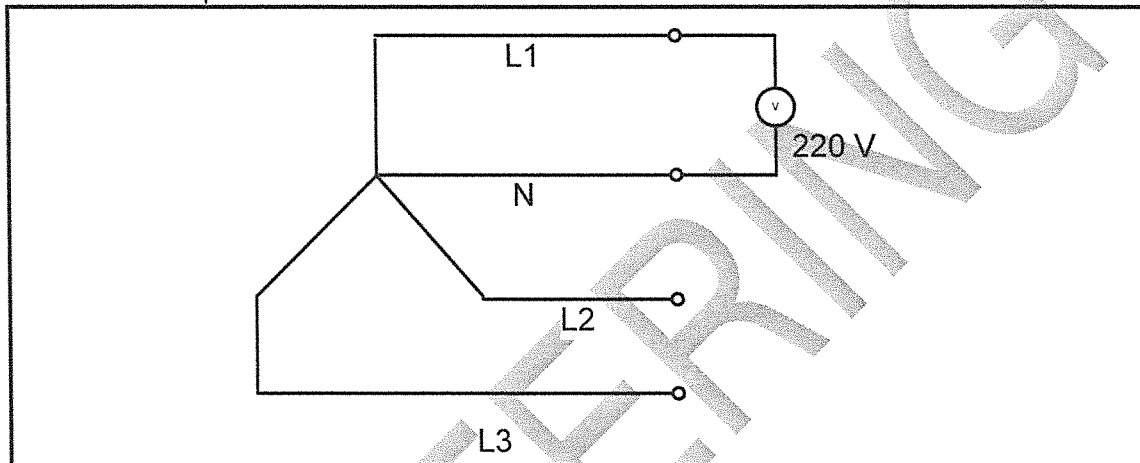

FIGURE 6.1: 3-PHASE AC SYSTEM
- 6.1 **FIGURE 6.1** shows a 3-phase system. Calculate the line voltage if the voltage across ONE phase and neutral is 220 V.